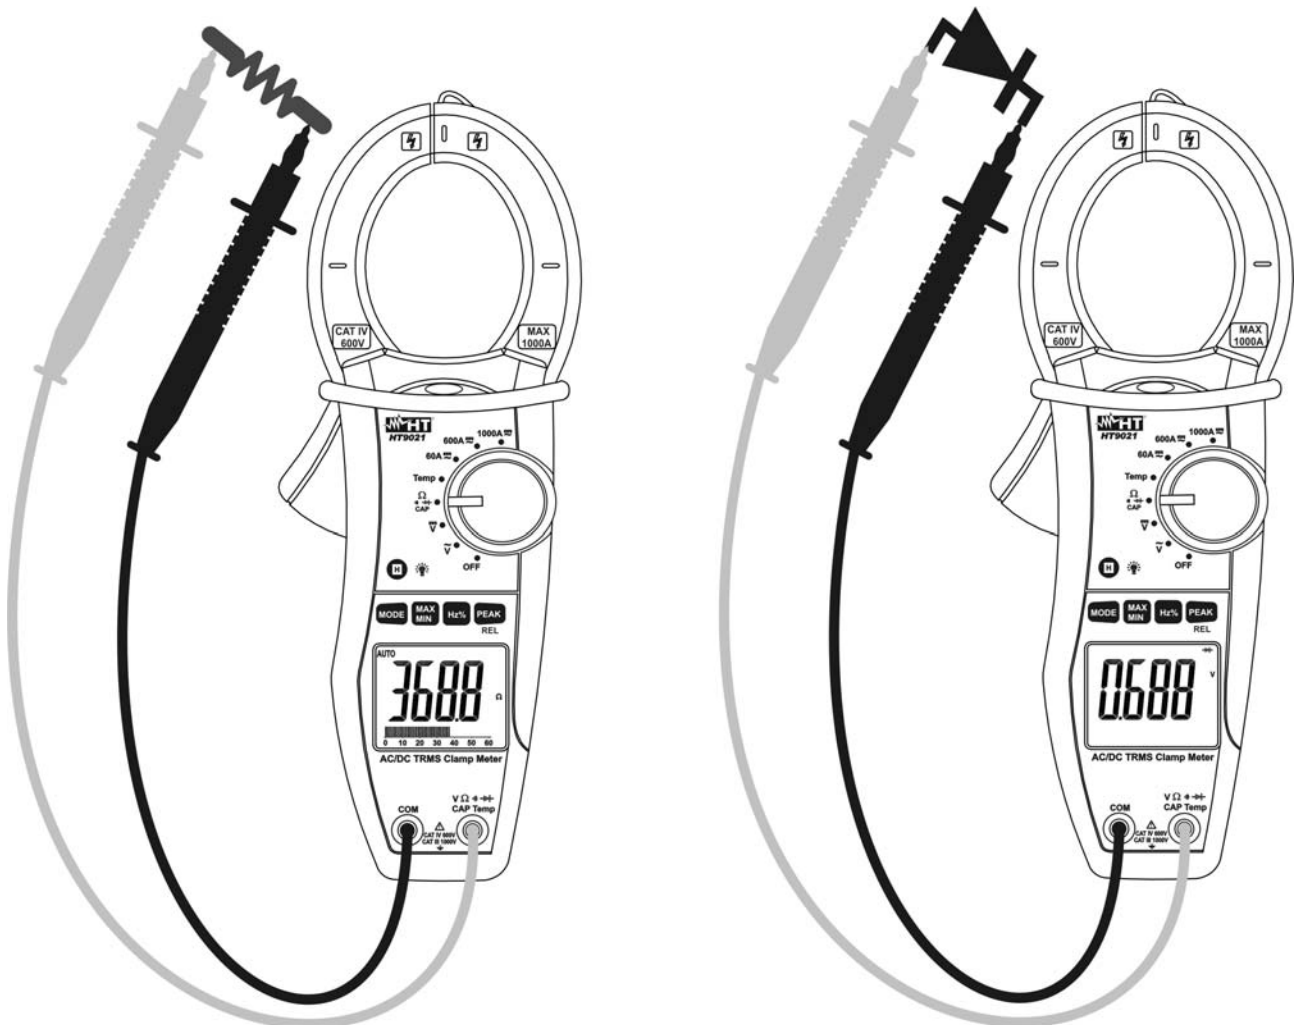

Fig. 6: Taking Continuity test and Diode test
3. Insert the red test lead plug into $V \Omega \cdot \text{CAP Temp}$ jack and the black test lead plug into **COM** jack and perform continuity test on the object under test (see Fig. 6 – left side). Buzzer emits sound if the measured resistance value is less about 60Ω
5. Connect the red test leads to the anode of diode on test and the black test lead on the cathode ones (see Fig. 6 – right side). Reverse position of test leads to reading reverse polarization voltage